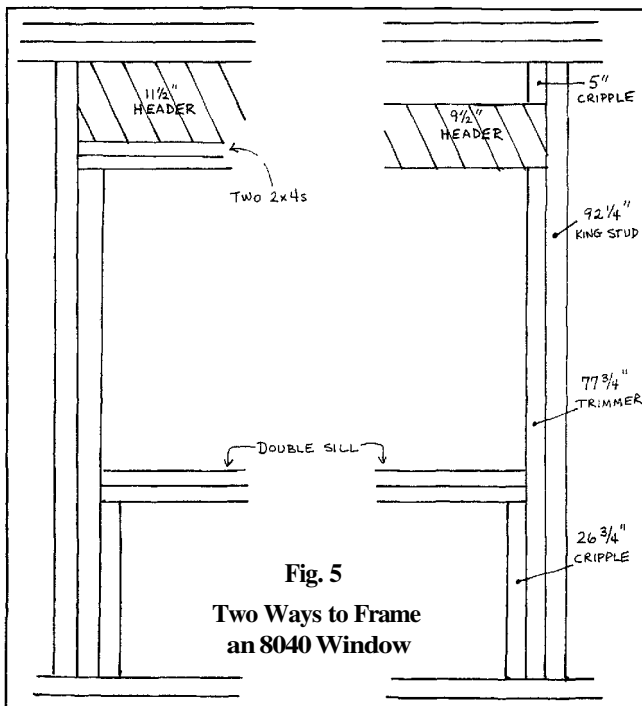

Fig. 5
• **Window Trimmers:** Fig. 5 shows 77 3/4"
• **Cripples:** Fig. 5 shows two methods of header framing. One requires no cripples above the header; the other requires 5" cripples. For the top, cut either eight cripples or build a solid header. At the bottom, the 40" opening with a double subsill requires a 26 3/4" subsill cripple. Cut eight of them.